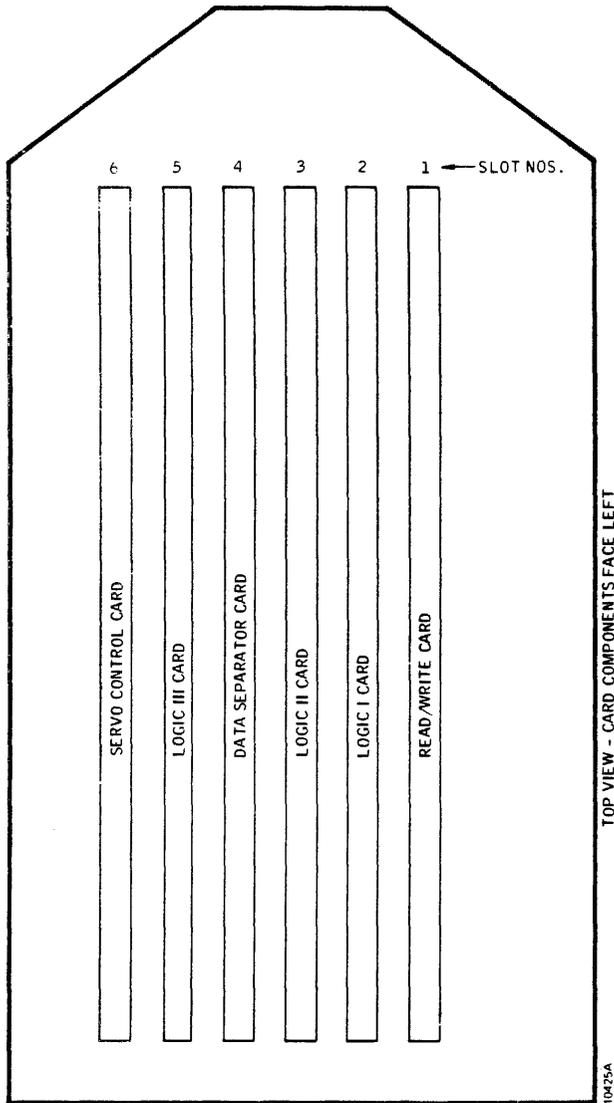

Figure 3-15. Plug-In Card Locations
Figure 3-15 shows the correct locations for the plug-in circuit cards, as viewed from the top of the card cage. These circuit cards are not keyed to their connectors, and it is possible to install them improperly. Card loca-
3. Remove all circuit cards from the card cage, keeping them in order for proper reinstallation. (See Figure 3-15.)